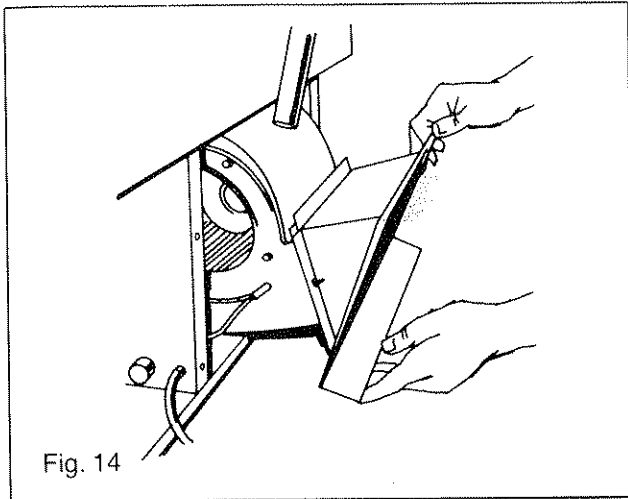

Fig. 14
- Remove 2 machine screws at shroud starter. (Fig. 14)
- Pull out shroud starter/motor assembly and oil motor where indicated. (Figs. 14 & 15).